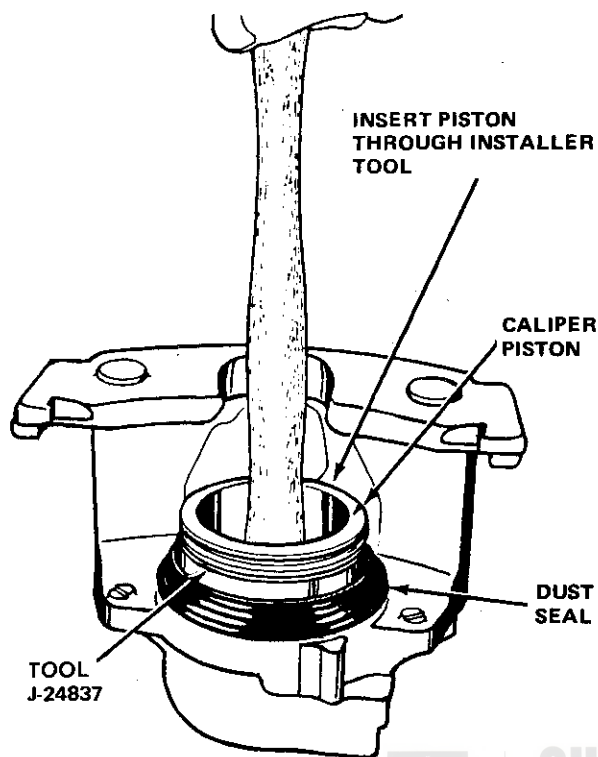

Fig. 2G-54 Caliper Piston Installation
(2) Mount dust boot on Installer Tool J-24837 (fig. 2G-52). Allow approximately 1/4 inch (6.35 mm) of tool to extend beyond small lip of dust boot.
(3) Position assembled boot and installer tool over piston bore. Reach through installer tool and work large lip of boot into boot groove in upper edge of piston bore (fig. 2G-53). Be sure boot is completely seated in groove.
(4) Lubricate caliper piston with brake fluid.
(5) Insert piston through installer tool and center piston in bore.
(6) Press piston half-way into bore. Use hammer handle and steady pressure to install piston (fig. 2G-54). Do not strike hammer handle or piston to install. Piston must be pressed into bore only.
(7) Remove boot installer tool.
(8) Seat rubber lip of dust boot in piston groove.
(9) Press piston to bottom of bore using hammer handle.
(10) Inspect rotor and install caliper and brakeshoes. Refer to Installation.